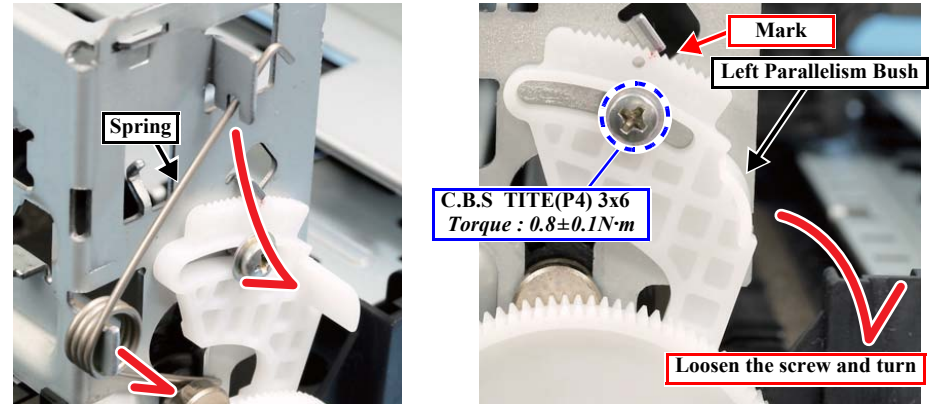

Figure 4-72. Removing the Carriage Assy (at left side)
8. At the left side of the printer, remove the spring, and mark the indicated graduation position of the Parallelism Bush. Then loosen the screw, and turn the Parallelism Bush toward the front. (Fig. 4-72)